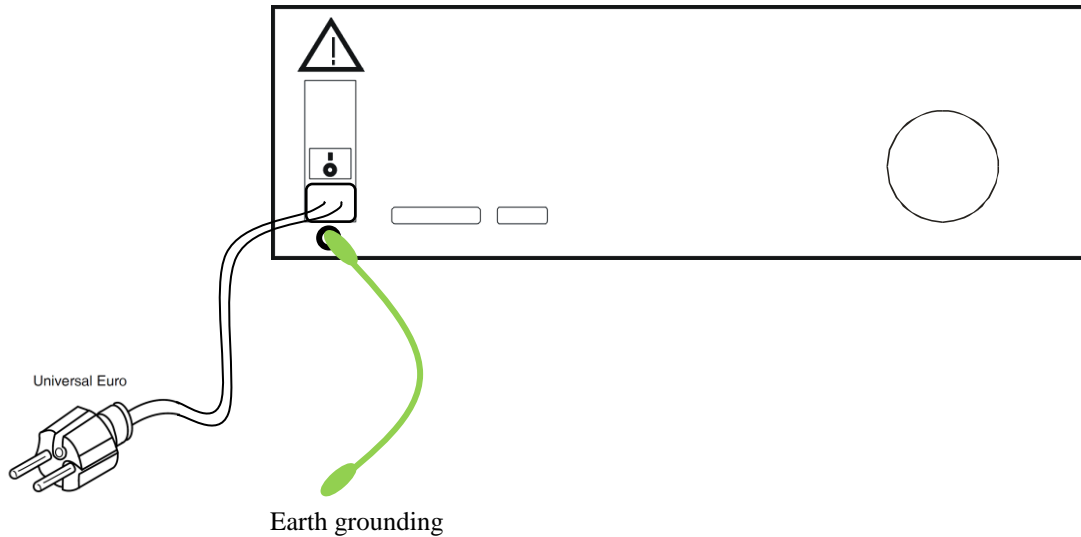

Fig 1 Rear panel connection
Fig 1	Rear panel connection
- Connect rear panel grounding post with earthing ground (protection earth) individually using green/yellow grounding lead, see fig. 1.